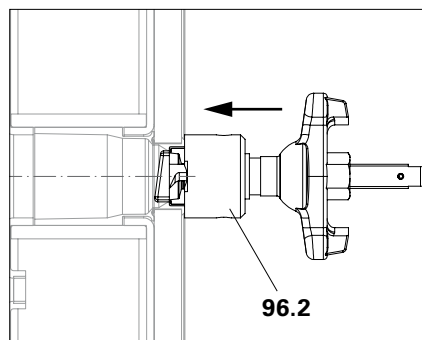

Fig. A14.04a
2. Turn the Removable Tool MX towards the panel until the extractor bell (96.2) rests against it. (Fig. A14.04a)